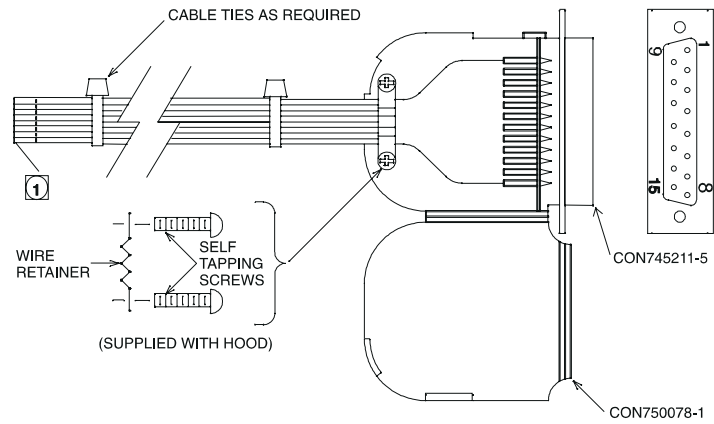

Figure 6. Connector Assembly
6. Wire the alarm inputs, alarm output, and external trigger directly. Refer to Figure 6 to build a cable using either the 15-pin or 25-pin D-type mating connector that is supplied with the switcher.